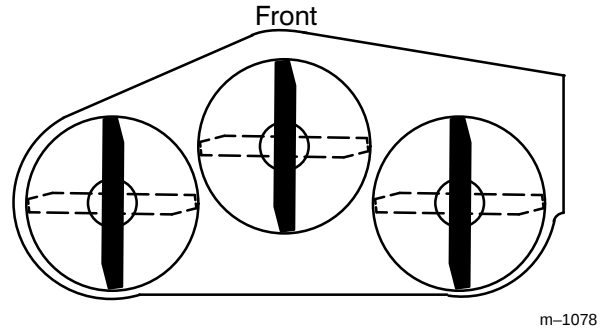
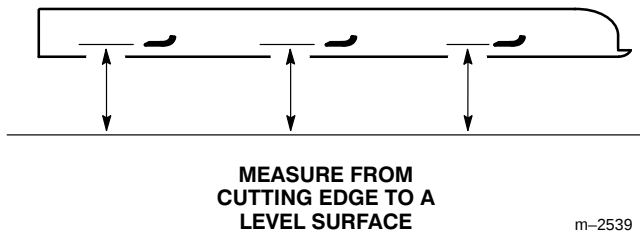

Figure 18
Figure 19
2. Rotate the blades until the ends face forward and backward (Fig. 18). Measure from a level surface to the cutting edge of the blades (Fig. 19). Note this dimension.